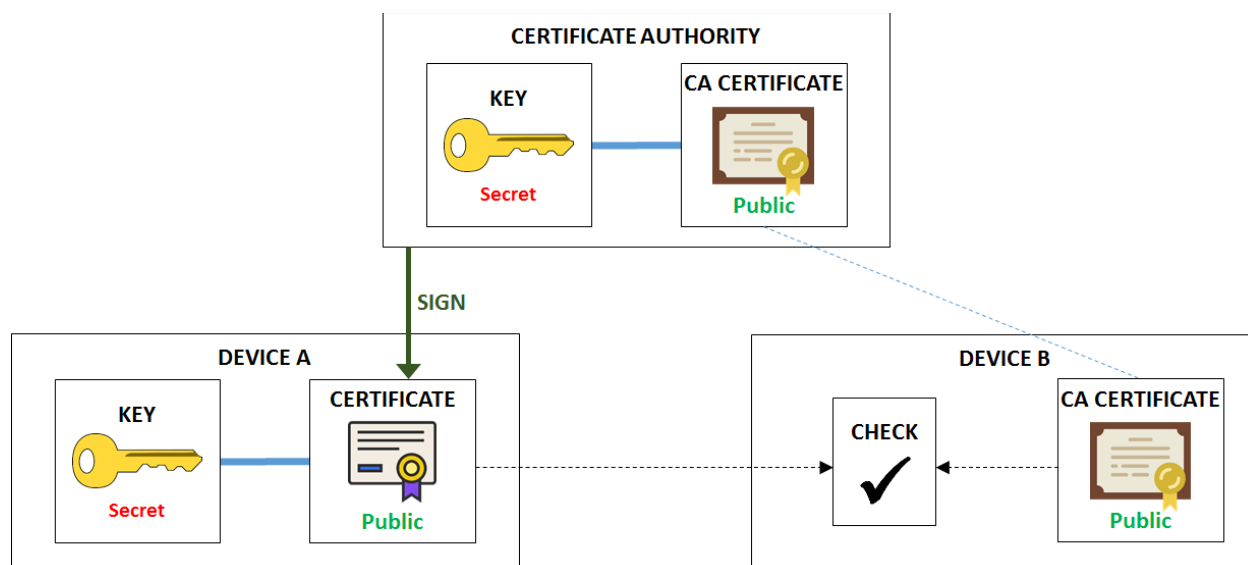
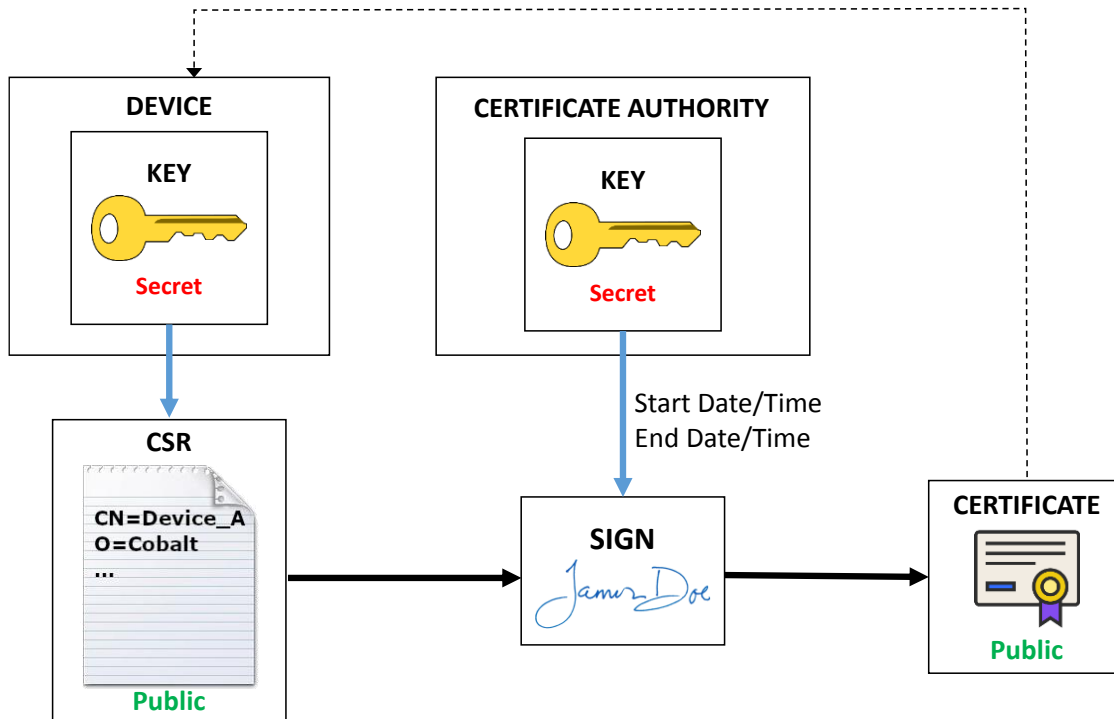

Figure 1: Certificate Checking
Figure 2: Certificate Signing Process
The certificate-based authentication process is illustrated in Figure 1. In this figure, Device B is deciding whether or not it trusts Device A. The same process can happen independently in the other direction. Device B has decided to trust certificates signed by a certain CA, so it has a copy of its CA Certificate, which was transferred to it through some secure means. Device B then receives a certificate from Device A. Unless that certificate matches the key stored in Device A, communication cannot even start. Device B can locally check the CA signature in the certificate coming from Device A against the CA Certificate it has. If that signature matches, and if Device B is prepared to trust the CA, then it will agree to communicate with Device A.
It is possible that a device goes “rogue” – in other words, it used to be authorized, but for whatever reason, it should not be accepted anymore. In Cobalt devices, this functionality is implemented using a list of **blocked devices**. One important field in the certificate is the **Common Name** – i.e., the name of the device. In a web site, this is usually the address of the site, e.g., www.cobaltdigital.com, but it can be any text string. For Cobalt devices, the blocking is done based on the Common Name of the device. Referring back to Figure 1, Device B will execute an additional step after it verifies that the certificate from Device A is valid – it will check that the Common Name is not in a list of blocked devices. If it is, Device B will refuse to communicate, even though the certificate checks out.
Figure 1 shows a certificate that has been signed by a Certificate Authority. In order to be secure, the signing process must not expose the device’s secret key, not the CA’s secret key. The process uses an intermediate file called a **Certificate Signing Request**, or **CSR**. The process is illustrated in Figure 2.
As indicated in Figure 2, the process includes the following steps:
As illustrated in Figure 1, the device needs a matched key/certificate pair to operate. The device's certificate is its identity, presented to remote devices when connecting. Using the DashBoard interface, in the **Authentication** tab, the device can be configured to use either its built-in credentials, or credentials that have been uploaded by the user through the web interface. This is shown in Figure 5.
2. Upload only a certificate that is matched to the internal built-in key. In order to do this, you will need to obtain a CSR from the device itself and get it signed, as illustrated in Figure 2. This process is described in more detail below.